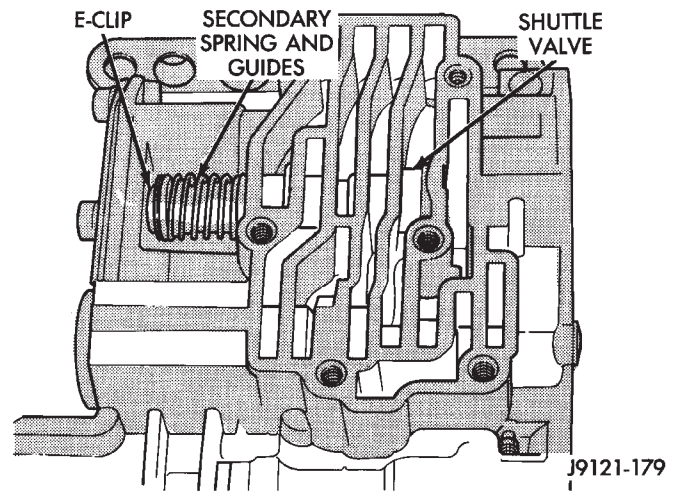

Fig. 58 Shuttle Valve E-Clip And Secondary Spring
(19) Compress spring and install E-clip in groove on shuttle valve stem (Fig. 58).